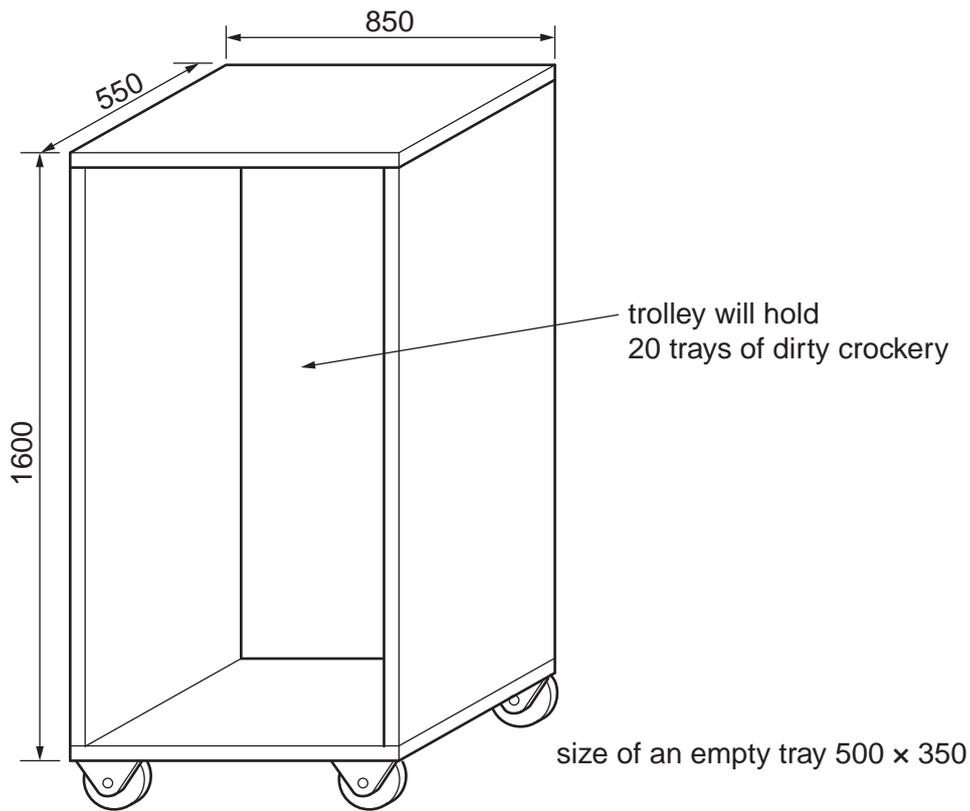

Fig. 9
- 9 Fig. 9 shows an incomplete idea for a tray-clearing trolley. Students using a school return trays, crockery and litter to the trolley.